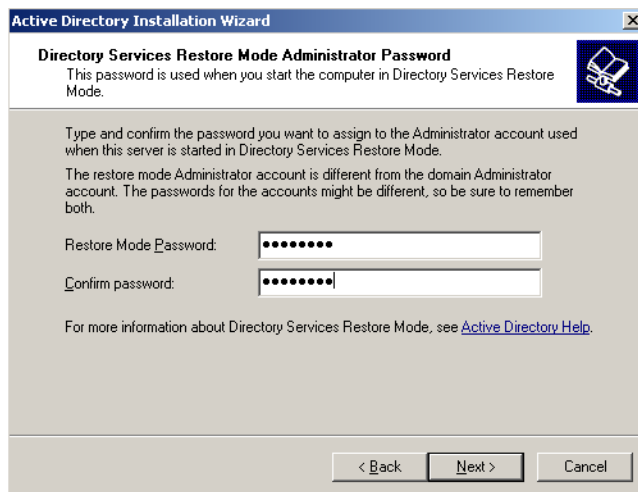

Figure D-16 Administrator password
18. In the **Directory Services Restore Mode Administrator Password** dialog shown in figure D-16, enter the password assigned to the Administrator account to be used when the server is started in the Directory Services Restore mode. You should use a complex password with at least 1 alpha and 1 numeric character, such as *Vlpersat*. When the password has been entered and verified, click the **Next** button to continue.